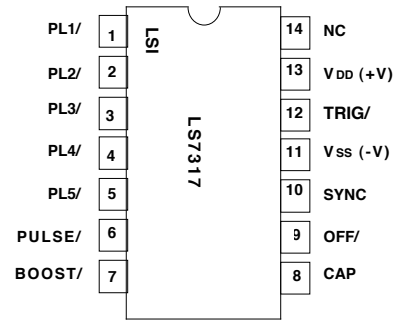

FIGURE 1
- **LS7317** (DIP); **LS7317-S** (SOIC) - See Figure 1 -